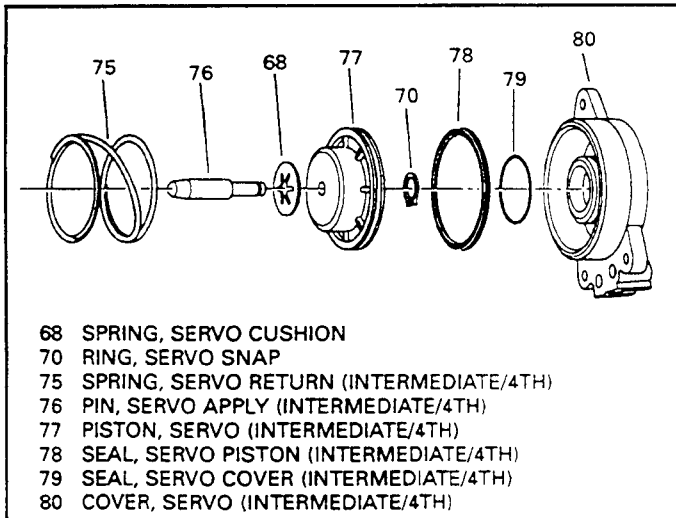

Figure 190
1. Assemble the Intermediate/4th servo cushion springs (68) and servo piston onto the servo apply pin, as shown in Figure 190. Retain the spring and piston by installing the snap ring as shown in Figure 190.
2. Install new servo seals (78) and (79) onto the servo piston and servo cover and lubricate with "Trans-Jel", as shown in Figure 190.
3. Assemble the intermediate/4th servo piston in the servo cover, as shown in Figure 190.